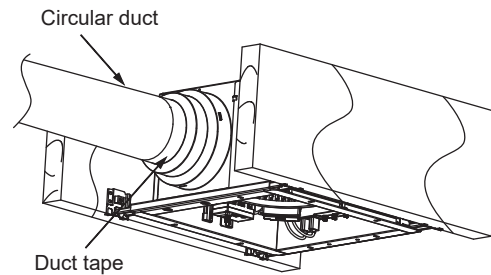

Fig. 6
- Install circular duct and secure it with clamps or ties and seal it with mastic or approved duct tape. Duct adaptor can accept 4, 5 or 6 inch (101.6, 127 or 152.4 mm) circular duct. See Fig. 6